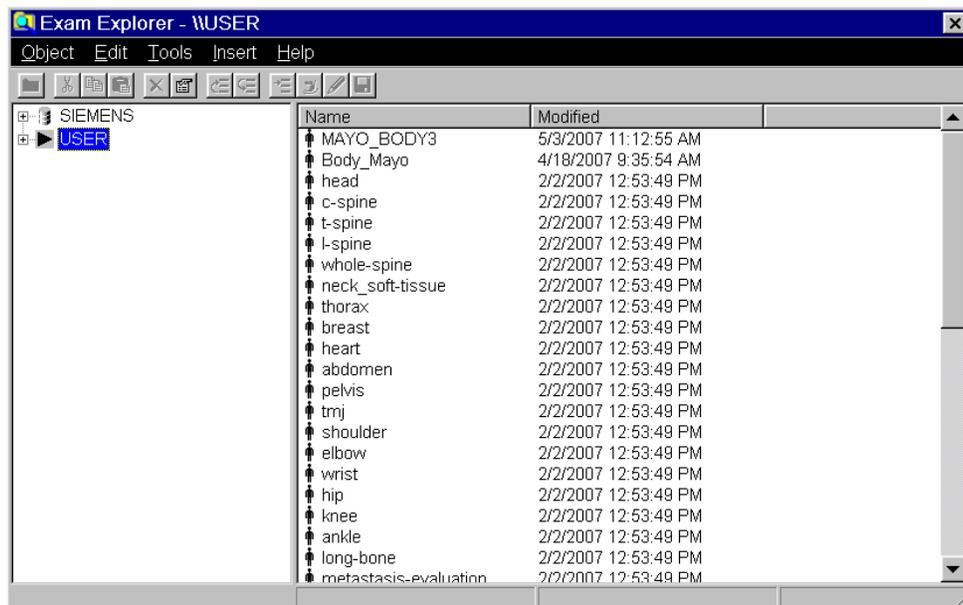

Figure 5: Siemens Exam Explorer
4. In the protocol editing tool, highlight the USER tree with a single click, Figure 5.